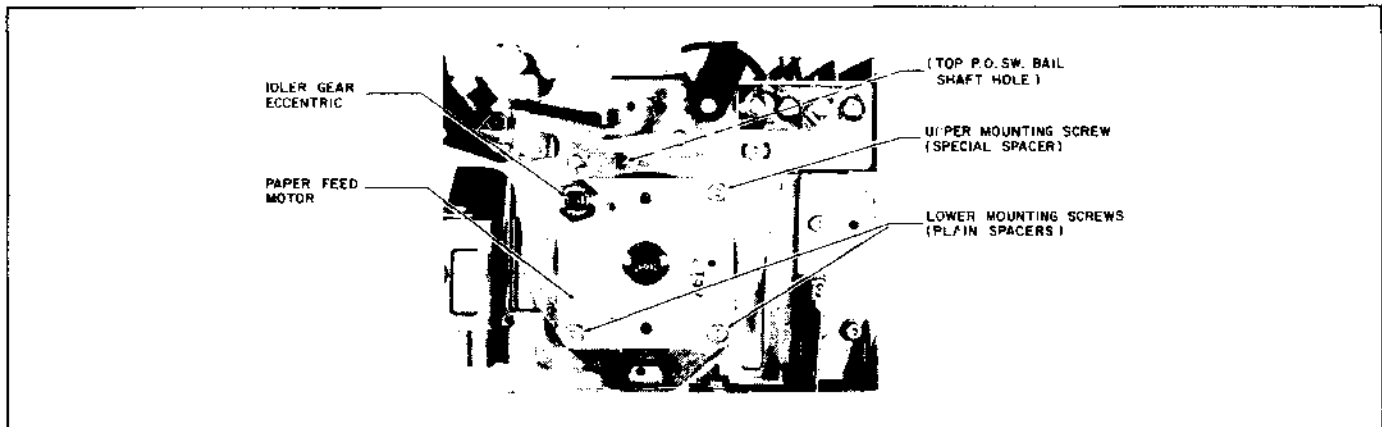

Figure 3-7. Paper Feed Motor Removal
- (1) Using a TORX T15 screwdriver, remove the three (3) 8-32 x 3/4" screws holding the paper feed motor to the right-hand carrier side frame as follows: remove the two bottom screws first, and retrieve their spacers from between the motor flange and the carrier frame. Remove the upper right-hand (as you view it) screw last, and retrieve its spacer from behind the motor flange. Note that this spacer has a shoulder which fits into the motor flange hole to prevent side play. Refer to Figure 3-7.
- (2) Tilt the motor down and out of the carrier side frame, and gently pull its connecting wires free from the wire bundle inside the printer.
- (3) Using an 11/32" open end wrench and a blade screwdriver, remove the paper feed idler gear mounting stud eccentric, nut, and washers (2) from the paper feed motor's upper left-hand flange hole (as you view it). Refer to Figure 3-7.
- (4) Transfer the items removed in Step (3) above to the replacement motor exactly as they were arranged on the removed motor (upper left-hand flange hole, nut and washers to the rear side).
- (1) Carefully insert the replacement paper feed motor's connecting wires into the opening in the right-hand carrier side frame, and tilt the motor into position in the frame opening.
- (2) Orient the paper feed motor with the idler gear eccentric stud upper left, as shown in Figure 3-7. Insert the special shoulder spacer [removed *last* in Step (1) of the removal procedures above] behind the motor's upper right flange, with its shoulder extending into the hole in the flange. Loosely thread one of the 8-32 x 3/4" screws into the carrier side frame through the motor flange and spacer.
- (3) Place spacers behind and insert 8-32 x 3/4" screws [removed *first* in Step (1) of removal procedures above] through the two bottom motor mounting holes; then finger tighten only. Now tighten the first screw [step (2) above] until snug, but not so tight as to restrict lateral movement of the motor.